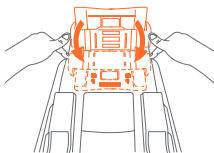

Fig. 59-2
- 2- While holding buttons in rotate elevation foot up into the locked position (Fig. 59-2).